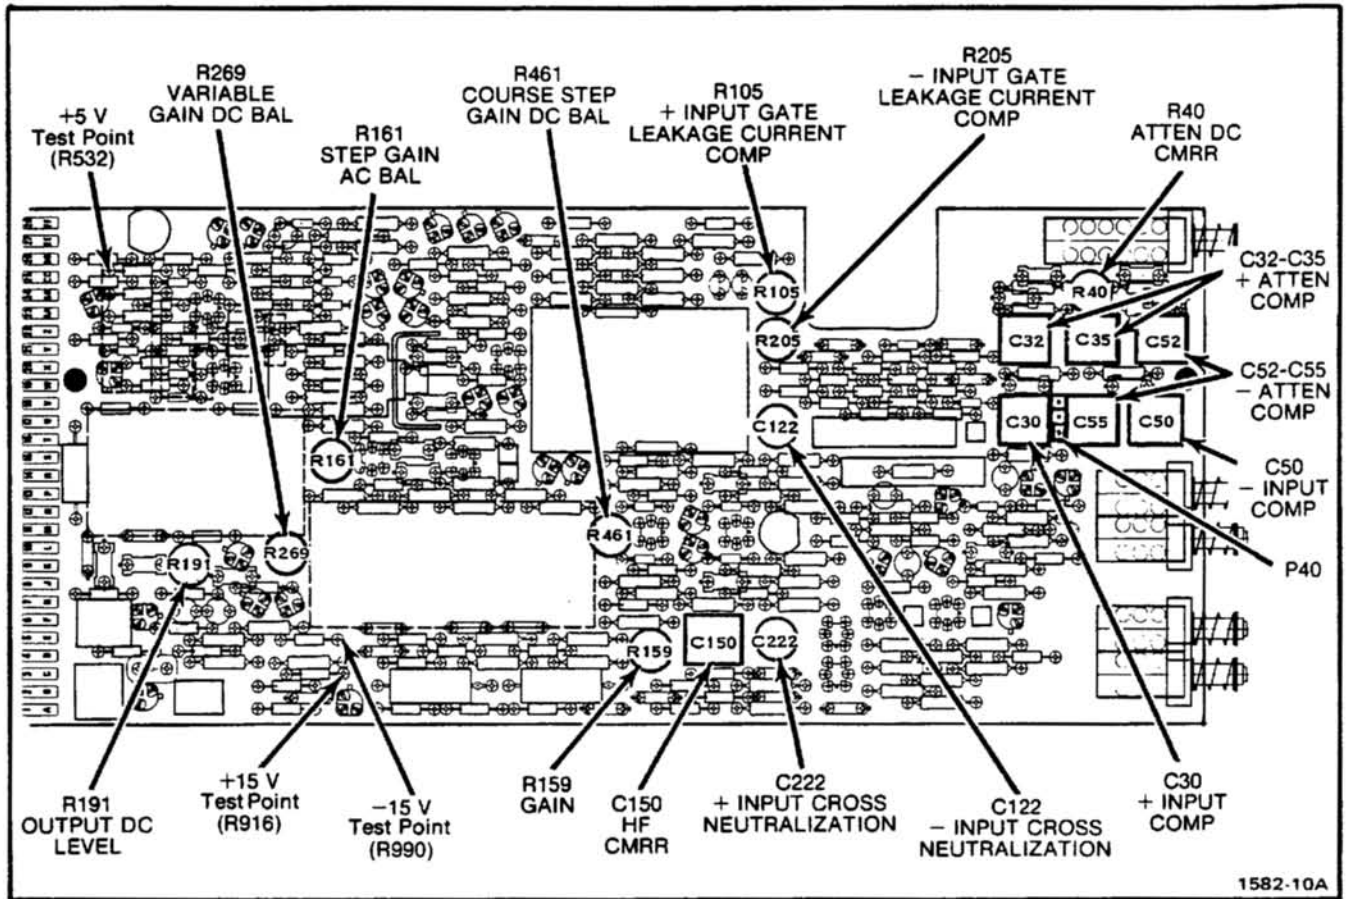

Fig. 3-1. Location of power supply test points, and all adjustments.
a. Connect the digital voltmeter between the +15 V test point on the Main circuit board, and chassis ground. See Fig. 3-1 for voltage test point location.
a. Connect the digital voltmeter between the -15 V test point on the Main circuit board, and chassis ground. See Fig. 3-1 for voltage test point location.
a. Connect the digital voltmeter between the +5 V test point on the Main circuit board, and chassis ground. See Fig. 3-1 for voltage test point location.
c. Adjust—Step Gain AC Bal, R161, for minimum trace shift while switching the AM 502 GAIN switch between the 100 and 100K positions. See Fig. 3-1 for adjustment location.
c. Adjust—Variable Gain DC BAL, R269, for minimum trace shift while rotating the AM 502 CAL control from fully clockwise to fully counterclockwise position. See Fig. 3-1 for adjustment location. Return control to the fully clockwise position and note the position of the trace.
- Adjust—Coarse Step Gain DC Bal, R461, to return trace to the center of the graticule. See Fig. 3-1 for adjustment location.
g. Adjust— +Input Comp, C30, for best flat top (minimum roll-off or overshoot on upper front corner) on displayed waveform. See Fig. 3-1 for adjustment location.